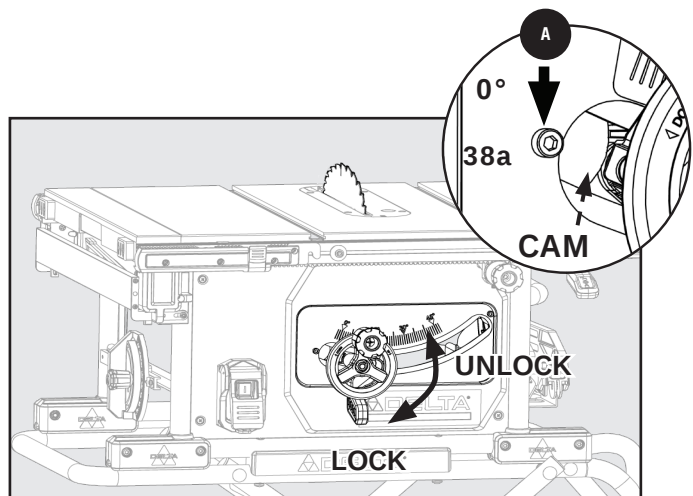

Figure 38
2. If it is not square, adjust the 0° stop as shown in "ADJUSTING THE BEVEL STOPS". See Figures 38 and 39.
If the blade is not vertically square to the table, you **MUST** adjust the 0° positive stop, located on the far left end of the bevel track. as shown Figures 38 and 38a.